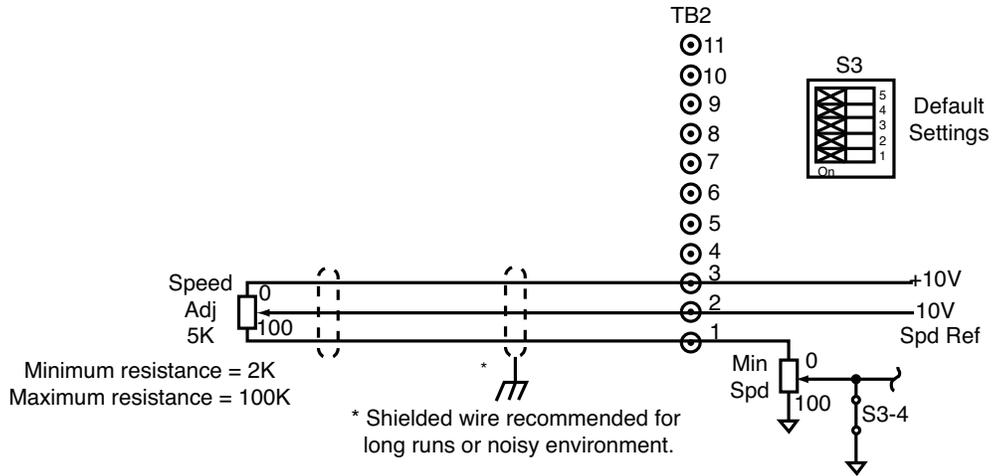

Figure 11. Signal Connection Diagram, Motor Speed Potentiometer
10. If remote operator control wiring and/or signal wiring is required, connect the controller as shown in the appropriate connection diagram (Figures 3 through 13). Figures 3 through 10 show operator control connections and Figures 11 through 18 show signal connections.